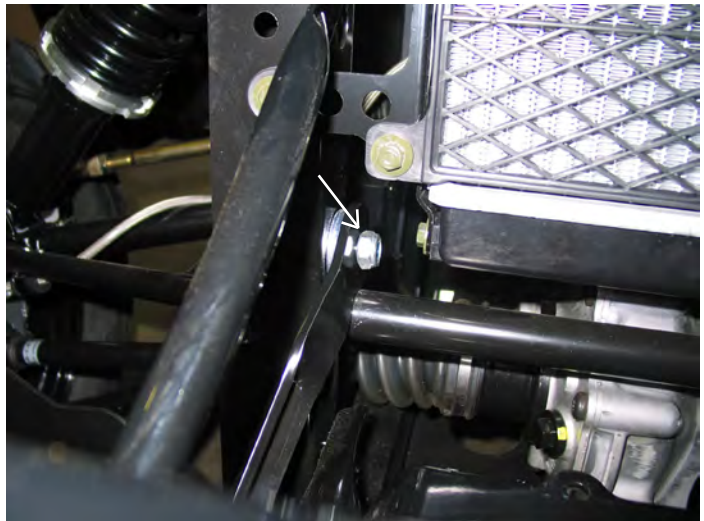

Figure 12
9. Install the left and right-hand straps noting that the large end goes to the vehicle frame rail. The small end to the plow mount. Use a 3/8 flat washer and M10 nylock nut. See figure 12